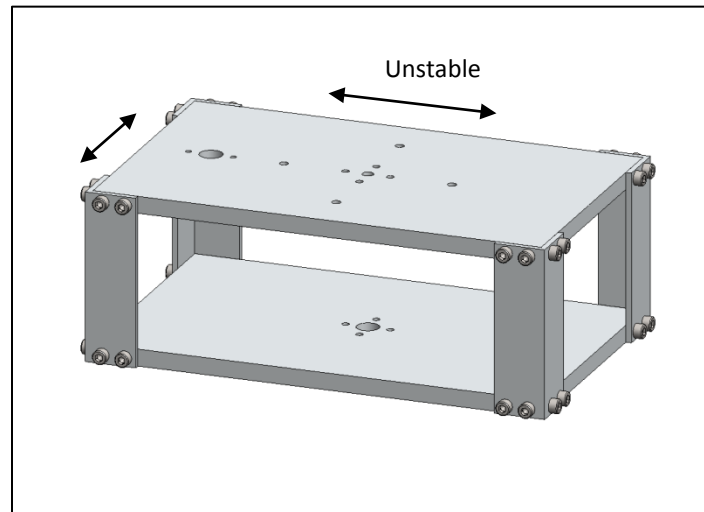
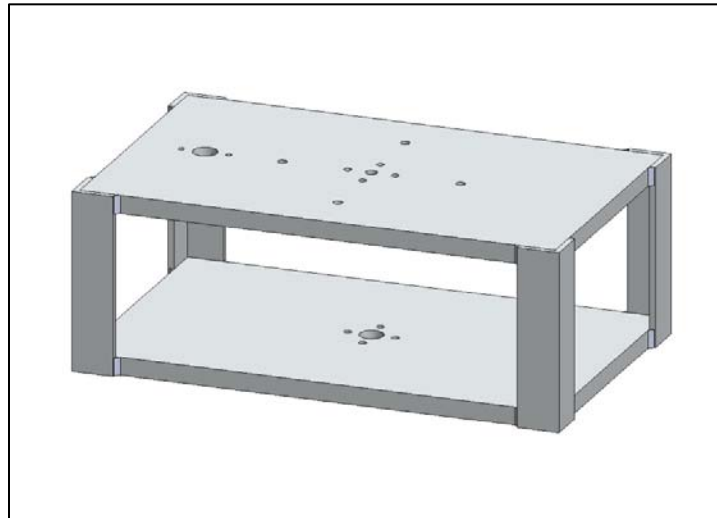

Figure 4.6 – Plate assembly using angle brackets
Figure 4.7 – Plate assembly using welded angle brackets
- Figure 4.6 and Figure 4.7 show the two plate assembly with angle brackets
- Angle brackets are appealing because they seem simple to machine (just cut to length and drill). **A note of caution!** Often what appears simple to fabricate results in being rather difficult and cumbersome. The method in Figure 4.6 is very time consuming to machine as the top and bottom plates cannot be machined **top down**. A total of 64 holes must be drilled. Half of the holes also need to be tapped in the sides of the plates.